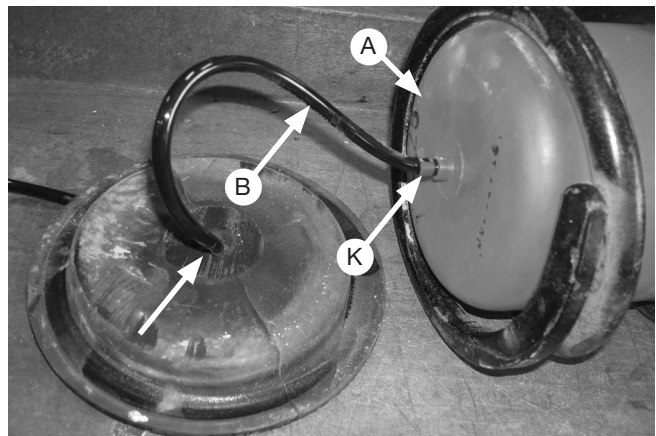

Fig. 10
7. Cut the air line (B) in half using a hose cutter, razor blade or sharp knife (see page 8 for air line cutting instructions). Insert the air line through the top of the modified hollow spring (Fig. 10). Insert the cylinder (A) into the spring with the stem pointing up. Install an air line clamp (K) onto the end of the air line and insert the air line over the barbed fitting, covering the barbs completely. Using a pair of pliers, move the clamp over the barbs so that it covers the barbed stem.